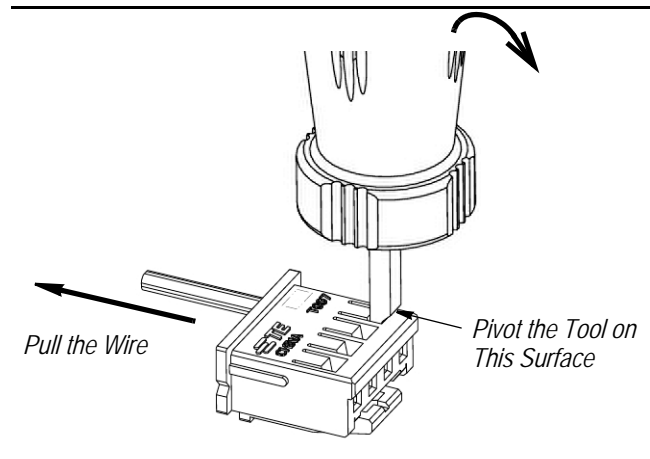

Figure 2
2. Insert the tip of the extraction tool into the window as shown in Figure 2.